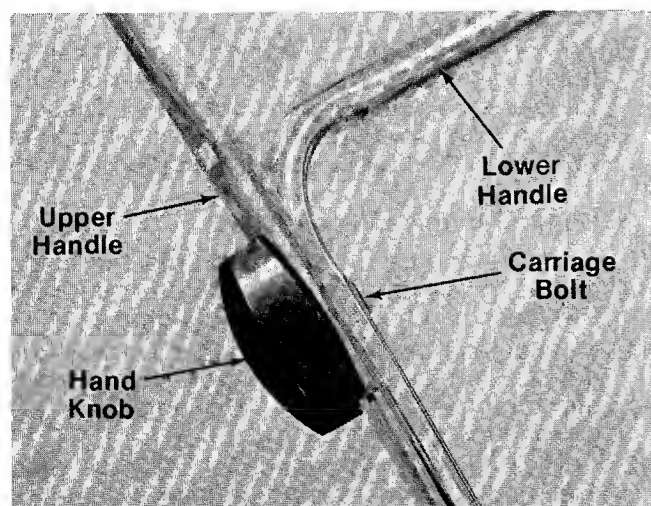

FIGURE 2.
4. Assemble upper handle with the clutch control attached to lower handle. Secure with two carriage bolts and handle knobs as shown in figure 2. The knobs may be assembled either to the inside or the outside of the handle.